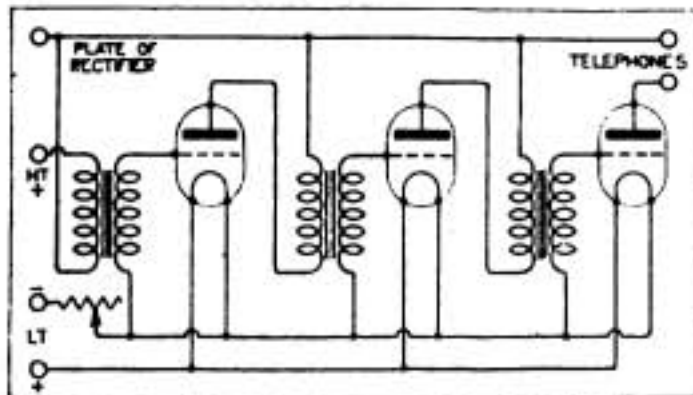

Fig. 3.
(1) No. (2) See diagram (Fig. 3). (3) There is no publication which deals at all fully with this subject.